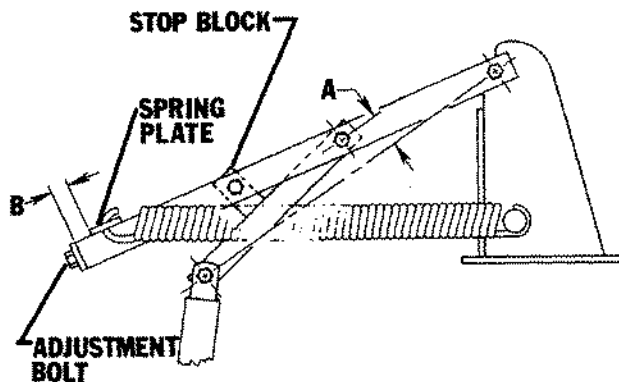

FIG. 6
The stop block maintains the linkage arms distance from center, shown as dimension (A), (See Fig. 6)